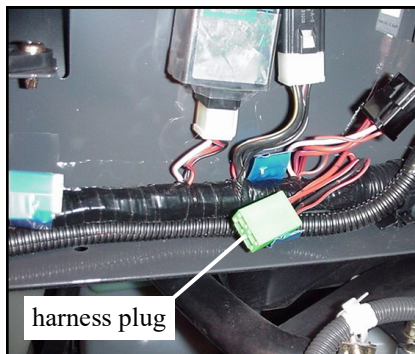
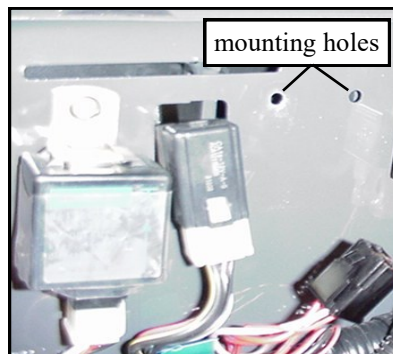
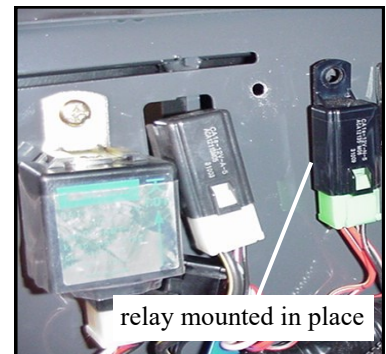
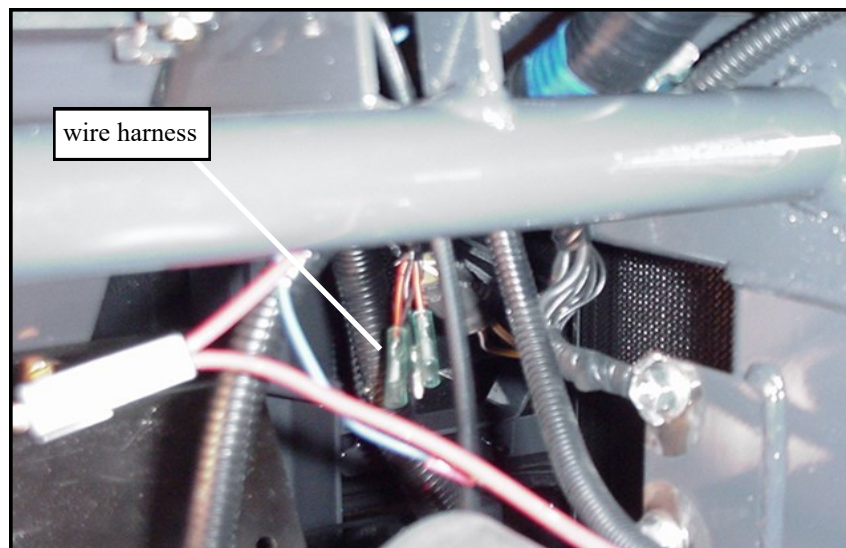

Fig. 1
Fig. 2
Fig. 3
Fig. 4
- A. To prepare the wire harness that is on the vehicle, cut the blue tape that is securing the harness plug (see Fig. 1). Connect the plug to the relay supplied in the wiring kit and selecting one of the mounting holes (see Fig. 2), fasten the relay alongside the other relays using the 1/4-20 thread cutting screw provided (see Fig. 3). NOTE: relay is required for power to wires shown in Fig. 4.
- B. As shown on page 6, crimp a male bullet connector onto the red wire from the strobe light and then connect it to the supplied red wire with the female bullet connector. Cut the wire to a suitable length to reach the toggle switch location. Crimp a female spade connector on and connect it to the toggle switch. Cut another appropriate length of red wire to reach from the toggle switch to the positive fused wire from the vehicle (red wire with yellow stripe) (see Fig. 4 below). For access to this female bullet connector, lift the dump bed and locate it behind the driver's seat. Crimp on a female spade connector and a male bullet connector and make the connection from the toggle switch to the positive fused wire from the vehicle (red wire with yellow stripe) (see Fig. 4). Crimp a male bullet connector onto the black wire from the strobe light. Crimp a female bullet connector onto the bare end of the long, black, supplied wire and make the connection from the black wire on the strobe light to the negative wire from the vehicle (also a black wire) (see Fig. 4). NOTE: this negative wire from the vehicle (with the male bullet connector) is also located behind the driver's seat, next to the positive fused wire mentioned above.